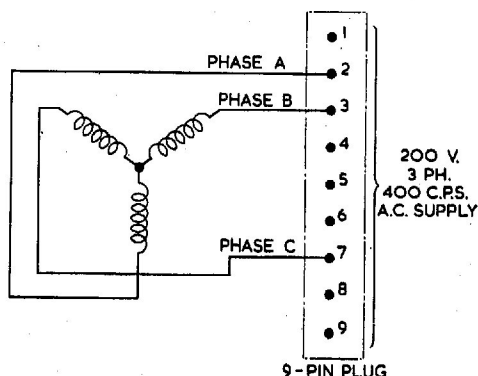

Fig. 3. Circuit diagram
5. The pump is driven by a motor operating from a 200V, 3-phase, 400 c/s supply. The extended rotor shaft supported at each end by ball bearings, carries the impeller together with a mechanical seal preventing fuel ingress into the motor unit. Rotation is anti-clockwise when viewed from drive end with phases connected in sequence red (A), white (B), blue (C), from left to right. Electrical connection to the motor is by way of a 9-pole Breeze plug and is connected as shown in the circuit diagram (fig. 3).